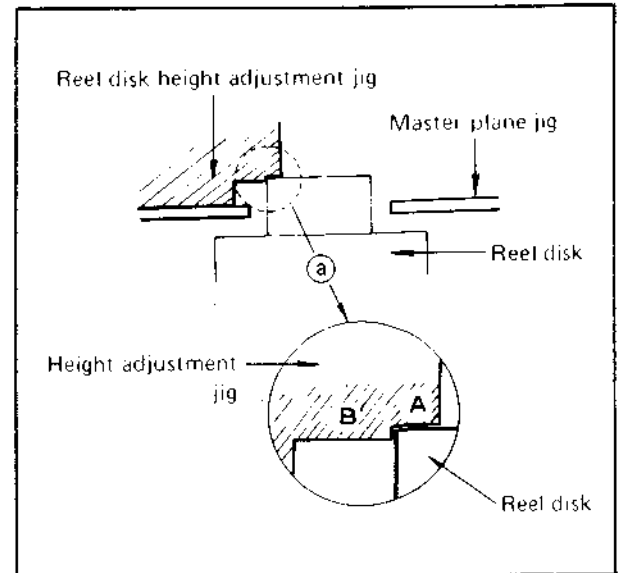

Fig. 4-15
3. Use the reel disk height adjustment jig to check the height of the reel disk as shown in Fig. 4-15.